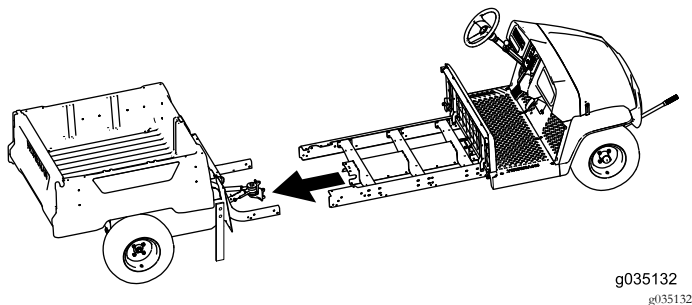

Figure 76
7. Have an assistant to help you bring the front and rear sections of the machine together (Figure 76).